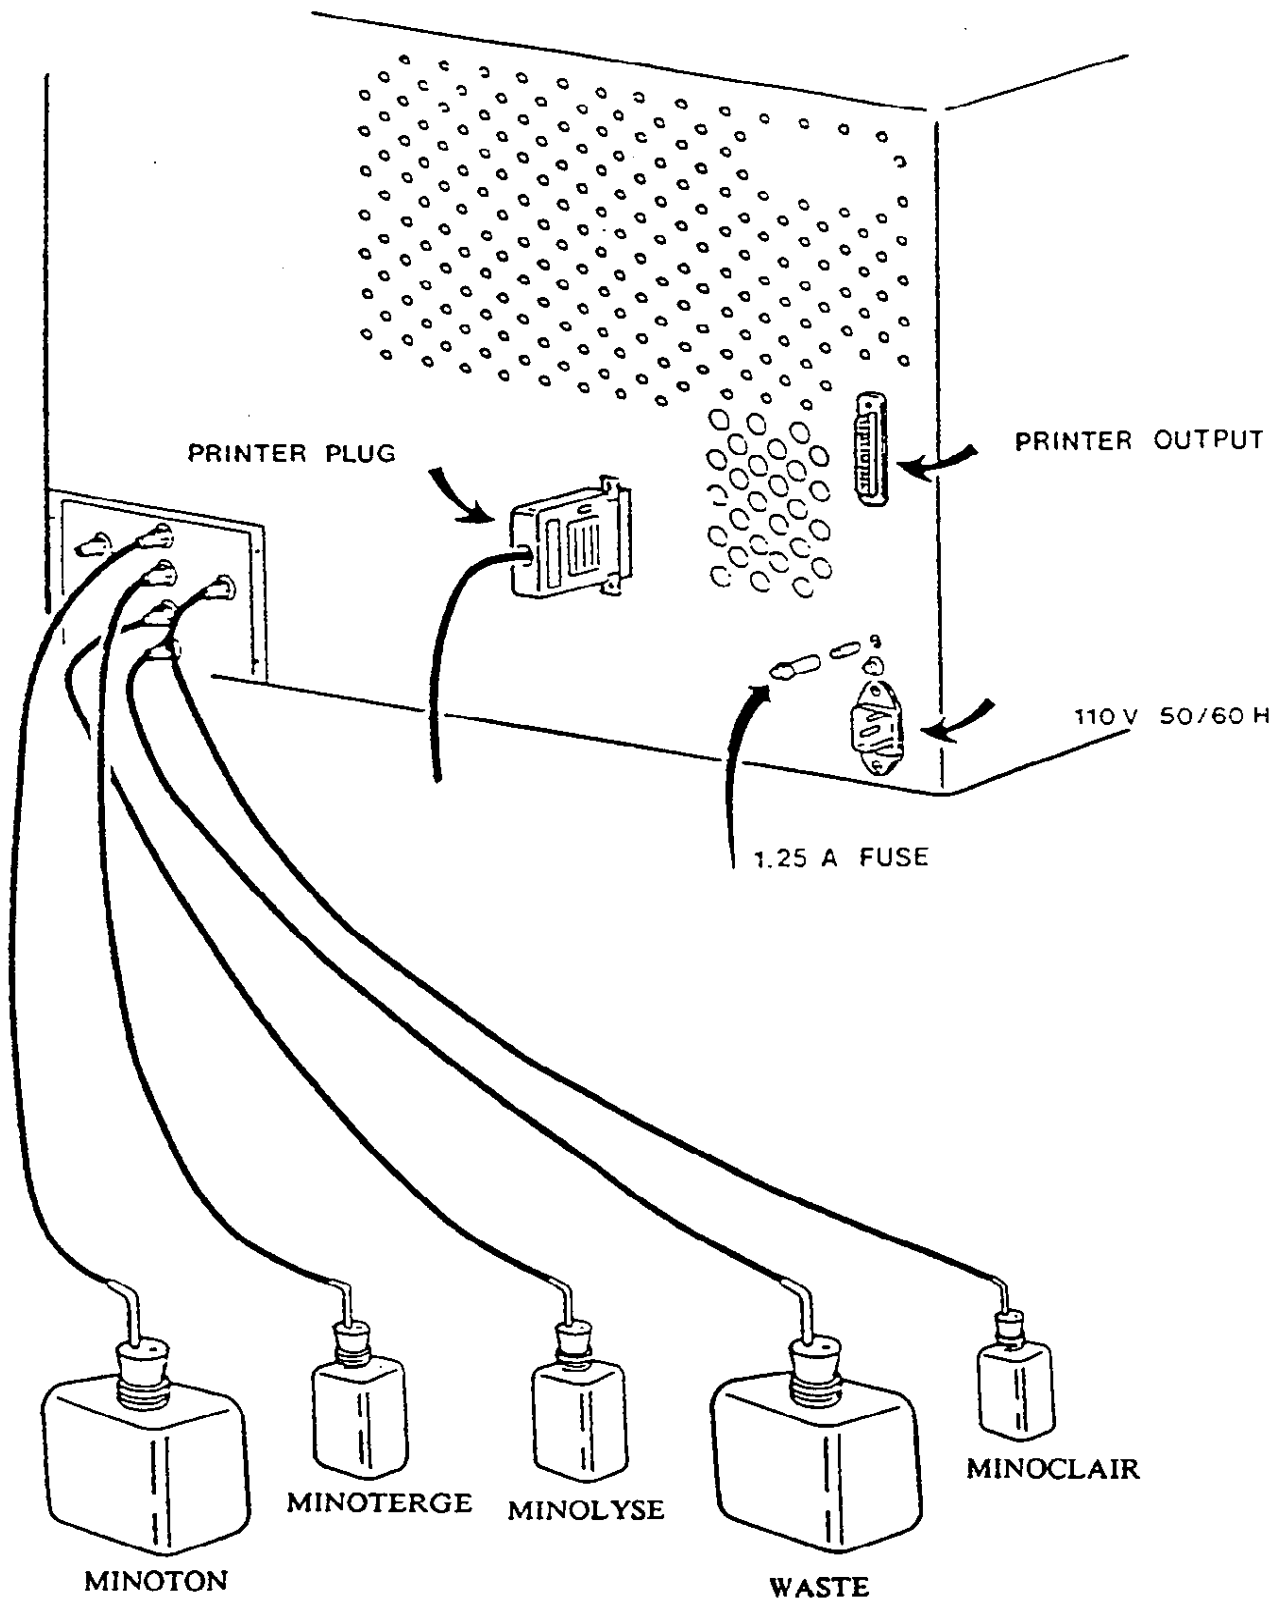

Figure II-1
Insert the two 1.25 Amp fuses. The fuse housings are located in the rear of the MINOS STE instrument above the main power plug receptable (See Figure II-1).
E. Reagent/Waste Connections (See Figure II-1)